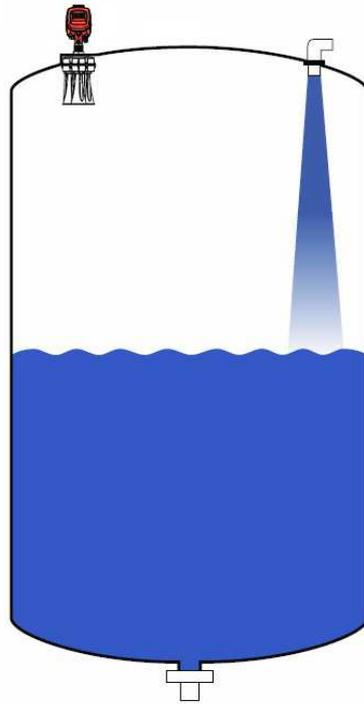

Figure 19 Installation Point
- ① The scanner should be installed as far away as possible from the inflowing material, as shown in Figure 19.